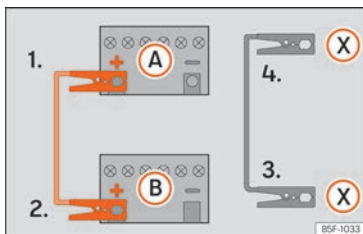

Fig. 78 Diagram of connections for vehicles with Start-Stop system.
- 4b. *In vehicles with a Start-stop system:* connect one end of the *black* jump lead (X) to a suitable ground terminal, to a solid piece of metal in the engine block, or to the engine block itself » » Fig. 78.
5. Connect the other end of the *black* jump lead (X) to a solid metal component bolted to the engine block or to the engine block itself of the vehicle with the flat battery. Do not connect it to a point near the battery (A).